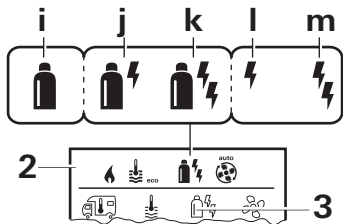

Fig. 6
- Select icon in menu bar (Fig. 6 – 3) with rotary push button.